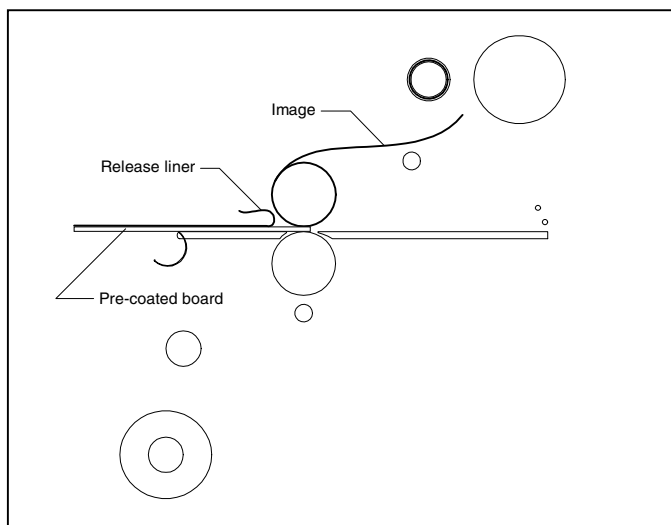

Fig. 32
**TIPS FOR MOUNTING PRE-COATED BOARDS (Figure 32)**
1. Load the laminator as illustrated in Figure 32.